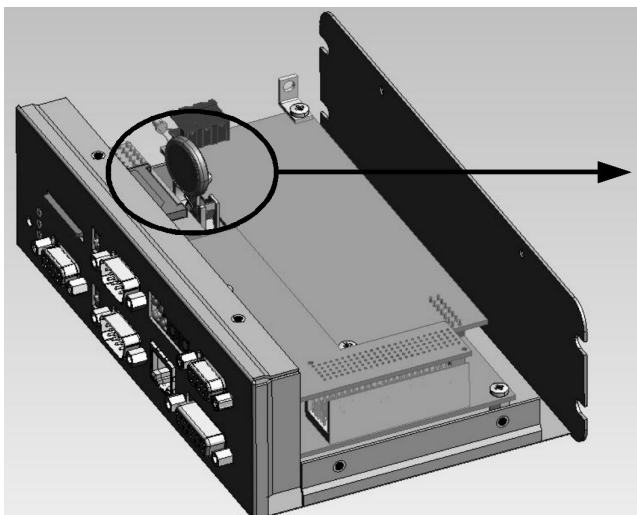

Figure 12 : Buffer Battery Position
- beside the power supply card you can see the CR2032 buffer battery (Figure 12)